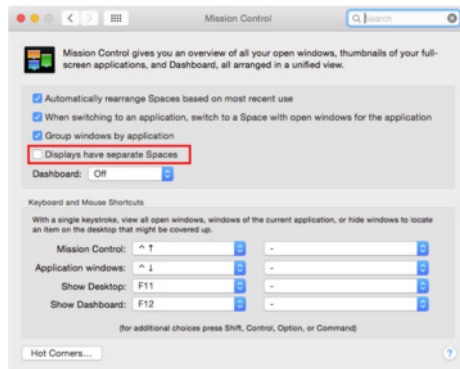

Figure 3: Mission Control Settings
- To prevent the display of the top-bar on the SLM the option "Displays have separate Spaces" needs to be disabled in the System Preferences -> Mission Control Settings. (see Figure 3)